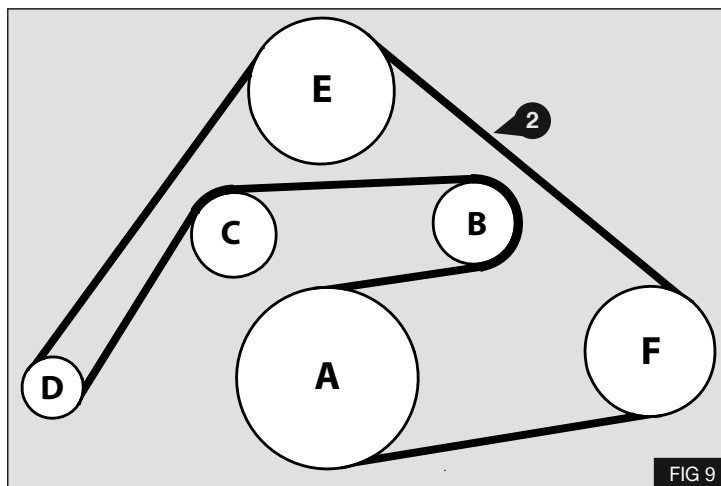

FIG 9
1. Fit the supplied drive belt ② as shown opposite - Fig 9